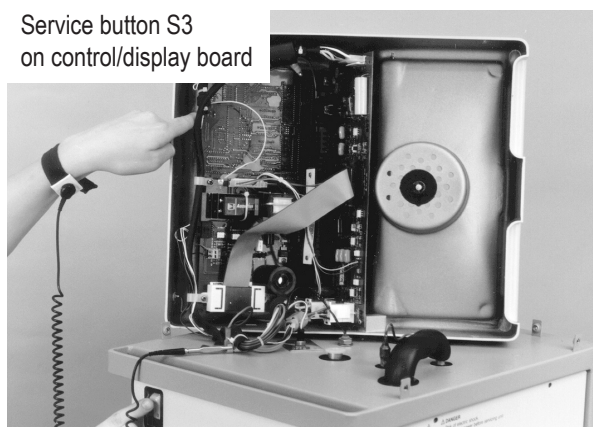

Figure 8—Initiating service mode 1
Wear a static control device connected to the chassis ground to prevent electrostatic discharge. (See figure 8, page 23.)
3. Lift the head, press and hold service button S3 on the low voltage control/display board (see fig. 8), then turn the machine on.
To access:	Press and hold S3 (see figure 8, p. 23) on the control/display board, then turn machine on.